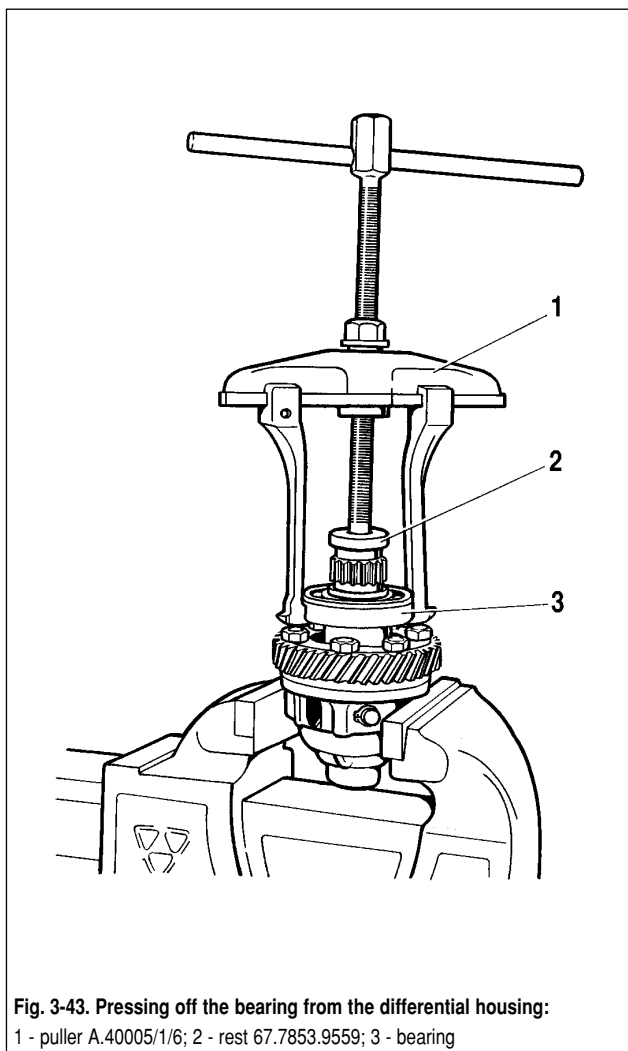

Fig. 3-43. Pressing off the bearing from the differential housing:
- remove the rear and front bearings from the differential casing (fig. 3-43) using a universal puller and a rest block 67.7853.9559;